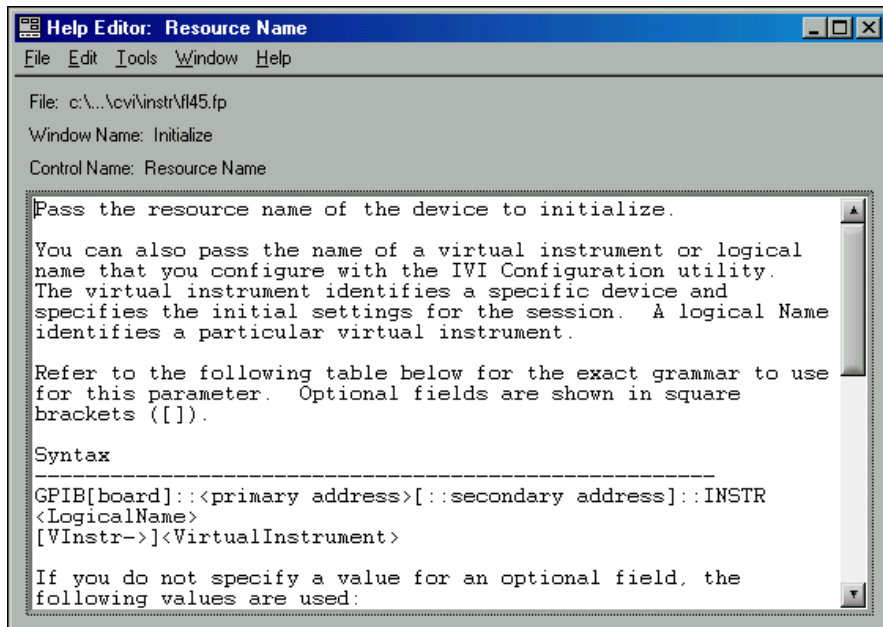

Figure 3-7. Fluke 45 Function Panel Control Help
- Control help contains a description of the parameter, the valid range, and the default value. Figure 3-7 shows an example of function panel control help from the Fluke 45 instrument driver.